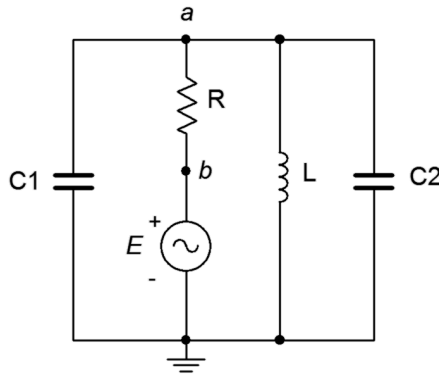

Figure 4.23
40. Consider the circuit drawn in Figure 4.23. Using only the available components of $1\text{ k}\Omega$, $2.2\text{ k}\Omega$, 1 mH , 5 mH , 10 nF , 75 nF and 560 nF , is it possible to configure a circuit such that v_a is half the magnitude of v_b ? If so, indicate which values could be used for the four components. If not, explain your reasoning.